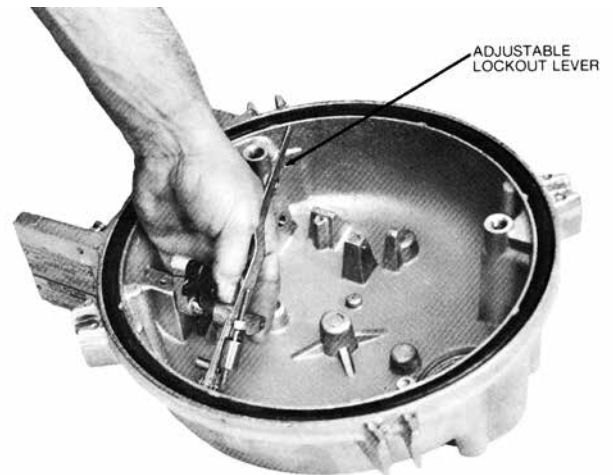

Figure 44. Lifting out adjustable lockout lever
11. Slip off the adjustable lockout lever (Figure 44).
2. Next, position adjustable lockout lever (Figure 44).